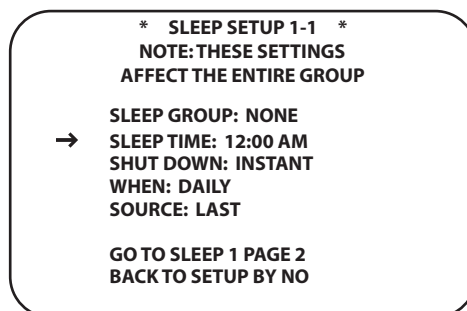

Figure 74.
3. Using the **▲/▼ Navigation Button** 16 position the cursor next to **SET SLEEP TIMES**. Press the **Set Button** 18. The **SLEEP SETUP 1-1** screen will appear (Figure 74).